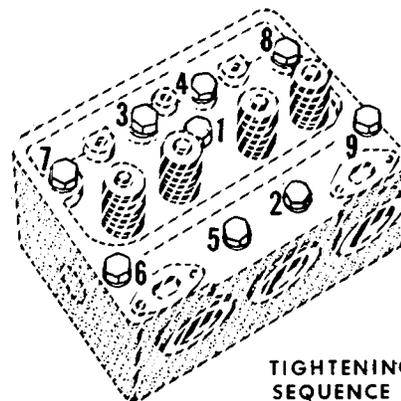

Figure L-6
11. Torque cylinder head bolts or nuts to the proper sequence illustrated in Figure L-6. The three torquing steps recommended are 50 foot pounds, 100 foot pounds and finally 150 foot pounds.